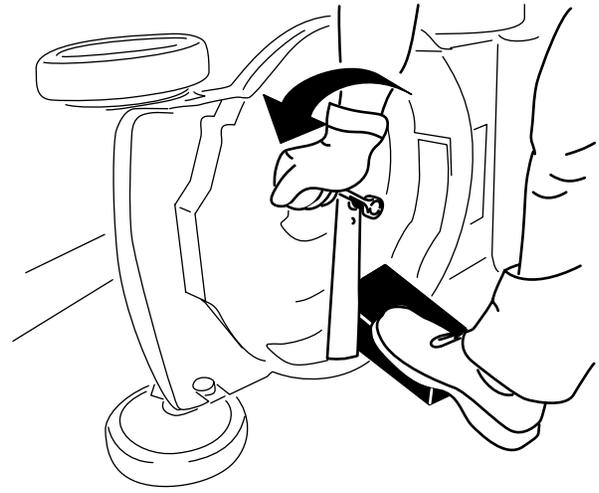

Figure 15
2. Use a block of wood to hold the blade steady (Figure 15).
3. Remove the blade bolt and blade; save the blade bolt (Figure 15).